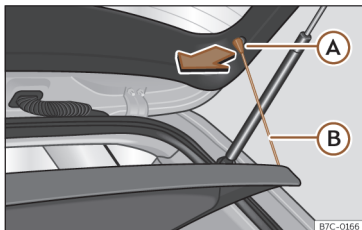

Fig. 157 In the boot: removing and installing the shelf.
- Detach the cord loops >>> **Fig. 157** (B) from their hooks (A).
- Attach the securing straps >>> **Fig. 157** (B) onto the rear lid.